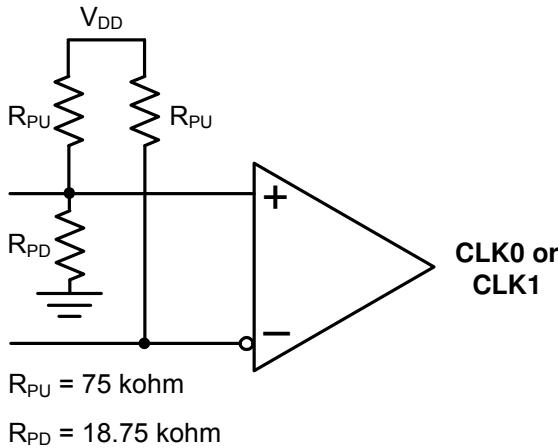

Figure 4. Input Bias Resistors
- 2. See Figure 4.
2. See Figure 4.